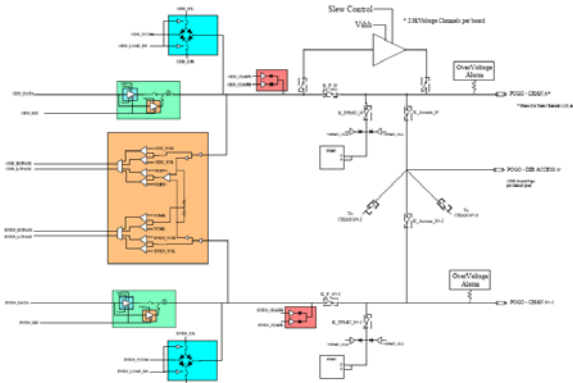

Fig.19 Channel block diagram of Pin Electronics
The following figure19 shows channel block diagram of Pin Electronics (PE).